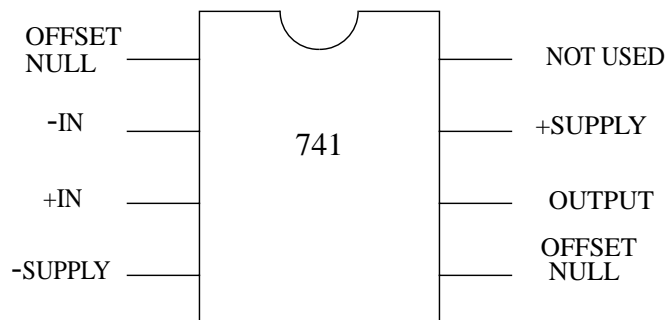

Figure 3: pin assignments for the 741 op-amp.
- (4-4) Following your design from Pre-Lab Exercise 4-3, construct the digital-to-analog converter using a 741 op-amp. Figure 3 shows the pin assignments for the 741 op-amp. Do not yet connect the converter data-bit inputs to the data-bit outputs from the memory. Rather, adjust the offset voltage  $v_{\text{OFF}}$  to 0 V, and connect each input individually to the 5-V power supply while leaving the other inputs grounded. Then, measure  $v_{\text{DAC}}$  with the multimeter, and compare the measurements to the data in the table prepared during Pre-Lab Exercise 4-4 to determine whether or not the converter is functioning properly.